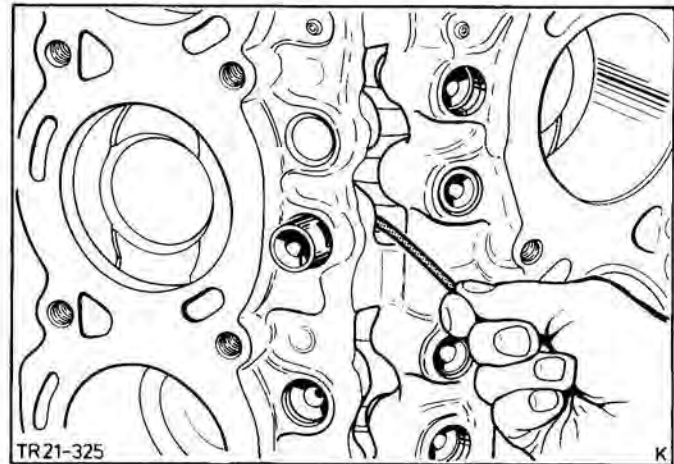

Fig.34. Press out valve tappets with a bent brass wire.
16. Position engine block vertically and press out valve tappets using a bent brass wire, Fig.34, having first placed a large oil drip tray underneath.